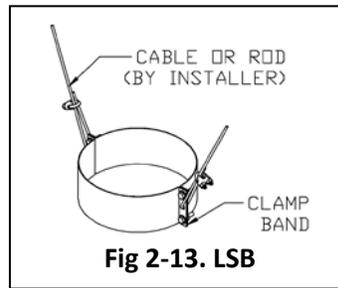

Fig 2-13. LSB
The band firmly clamps around the pipe outer jacket and includes four (4) 1/4" x 20 stainless steel nuts and bolts. Remaining hole in the middle where wires or threaded rods (by the installing contractor) are used for support or guiding back to the building structure. See Fig 2-13.